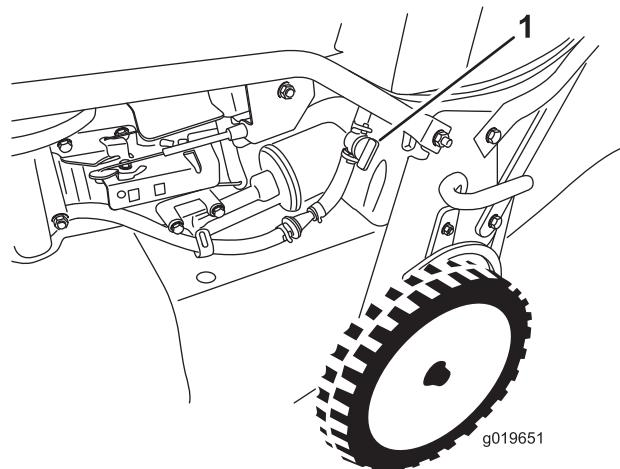

Figure 15
2. Open the fuel shutoff valve (Figure 15).